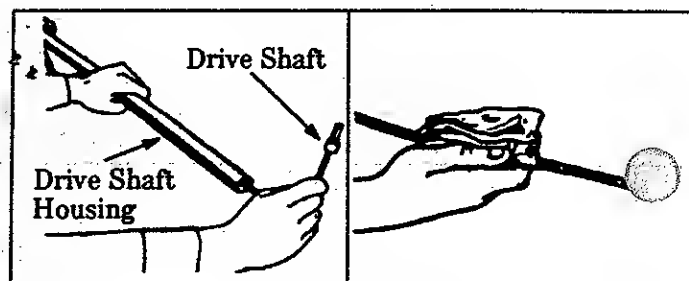

Figure 28
2. Remove the Drive Shaft from the Drive Shaft Housing. Figure 28.
7. Replace Drive Shaft in the Drive Shaft Housing. Figure 28.